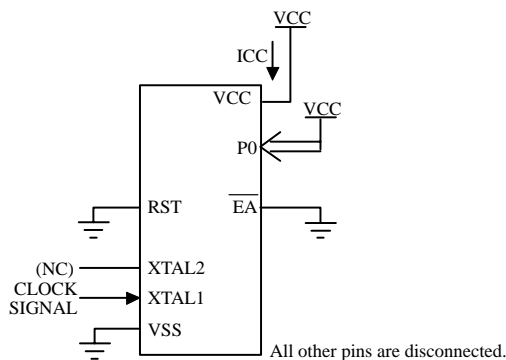

Figure 9 ICC Test Condition, Idle Mode
- Idle ICC is measured with all output pins disconnected; XTAL1 driven with TCLCH, TCHCL = 5ns, VIL = VSS + 0.5V, VIH = VCC - 0.5V; XTAL2 N.C.; Port 0 = VCC; $\overline{\text{EA}}$ = RST = VSS (see Figure 9).